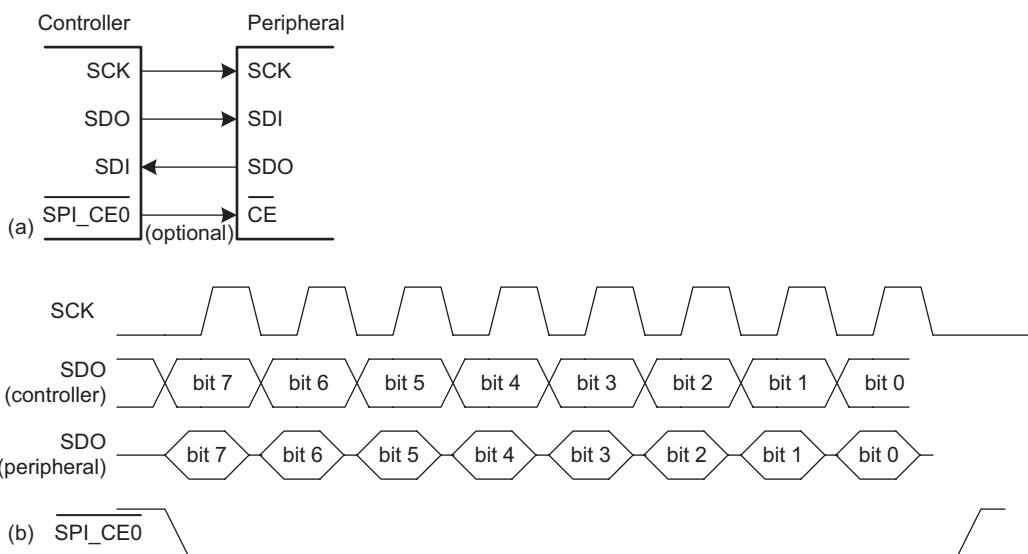
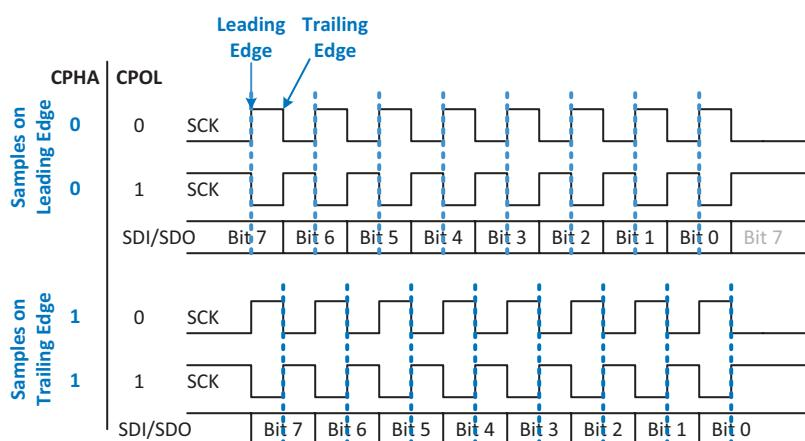

Figure e9.6 SPI configuration: (a) SPI controller-peripheral connection diagram, (b) Example SPI data signals
Figure e9.7 Timing diagram and configurations for SPI peripherals
SPI (pronounced “S-P-I”) is a simple synchronous serial protocol that is easy to use and relatively fast. The physical interface consists of three pins: serial clock (SCK), serial data out (SDO), and serial data in (SDI). SPI connects a *controller* device to a *peripheral* device, as shown in Figure e9.6\(a\). The controller produces the clock. It initiates communication by sending clock pulses on SCK. The controller sends data from its SDO pin to the peripheral’s SDI pin one bit per cycle, starting with the most significant bit. The peripheral may simultaneously respond with its SDO pin back to the controller’s SDI pin. Figure e9.6\(b\) shows the SPI waveforms for an 8-bit data transmission. Bits change on the falling edge of SCK and are stable to sample on the rising edge. The SPI interface may also send an active-low chip enable to alert the receiver that data is coming.
Two common configuration parameters are clock polarity (CPOL) and clock phase (CPHA). CPOL sets the level of the clock when it is idle and CPHA sets the clock edge when data (SDO and SDI) is sampled (and changed). If CPOL = 1, SCK remains high (1) when data is not being transmitted; if CPOL = 0, SCK remains low (0) when idle. If CPHA = 0, data are sampled on the leading edge (and change on the trailing edge) of SCK; if CPHA = 1, data are sampled on the trailing edge (and change on the leading edge) of SCK. The edge on which data changes is also referred to as the *shifting edge* because the underlying hardware is usually a shift register. Figure e9.7 shows the four possible combinations of CPHA and CPOL. The example from Figure e9.6 shows CPOL = 0 and CPHA = 0.